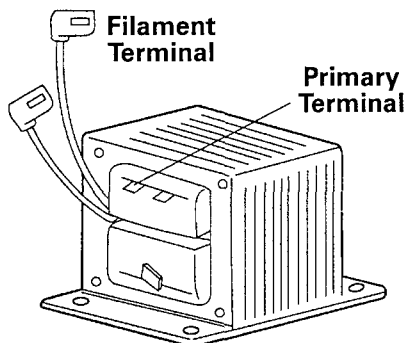

Figure 1
1. High voltage transformer (Figure 1)